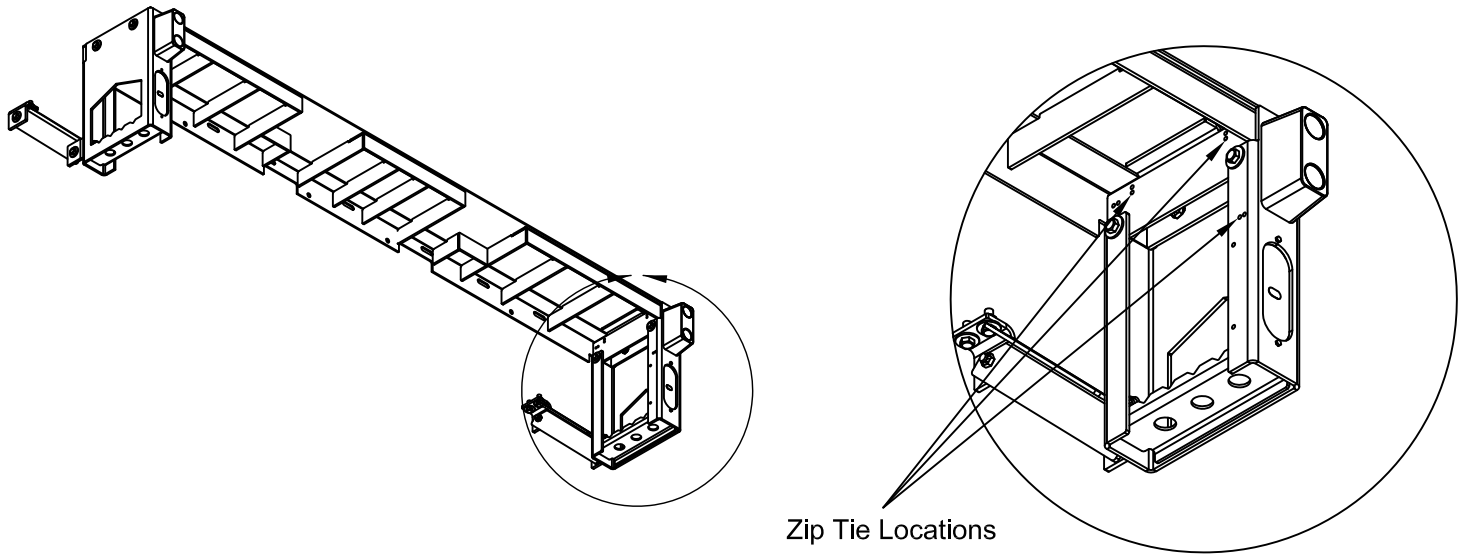

Figure 7: Underneath Looking From Bed Extension
7. **Zip tie** the wiring inside the bed extension, using the auxiliary holes (Figure 7).